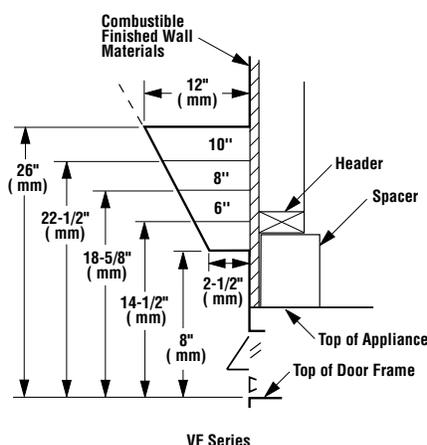

Figure 2
Ensure the minimum clearances shown in Figures 2 and 3 are maintained.
In order to install the appliance facing flush with the finished wall, position the framework to accommodate the thickness of the finished wall (Refer to Figures 2 and 3).
**Step 9. Secure Heater** – Bend the tabs down (*Figures 2 and 15*). Using two (2) screws securely tighten the appliance to the platform.